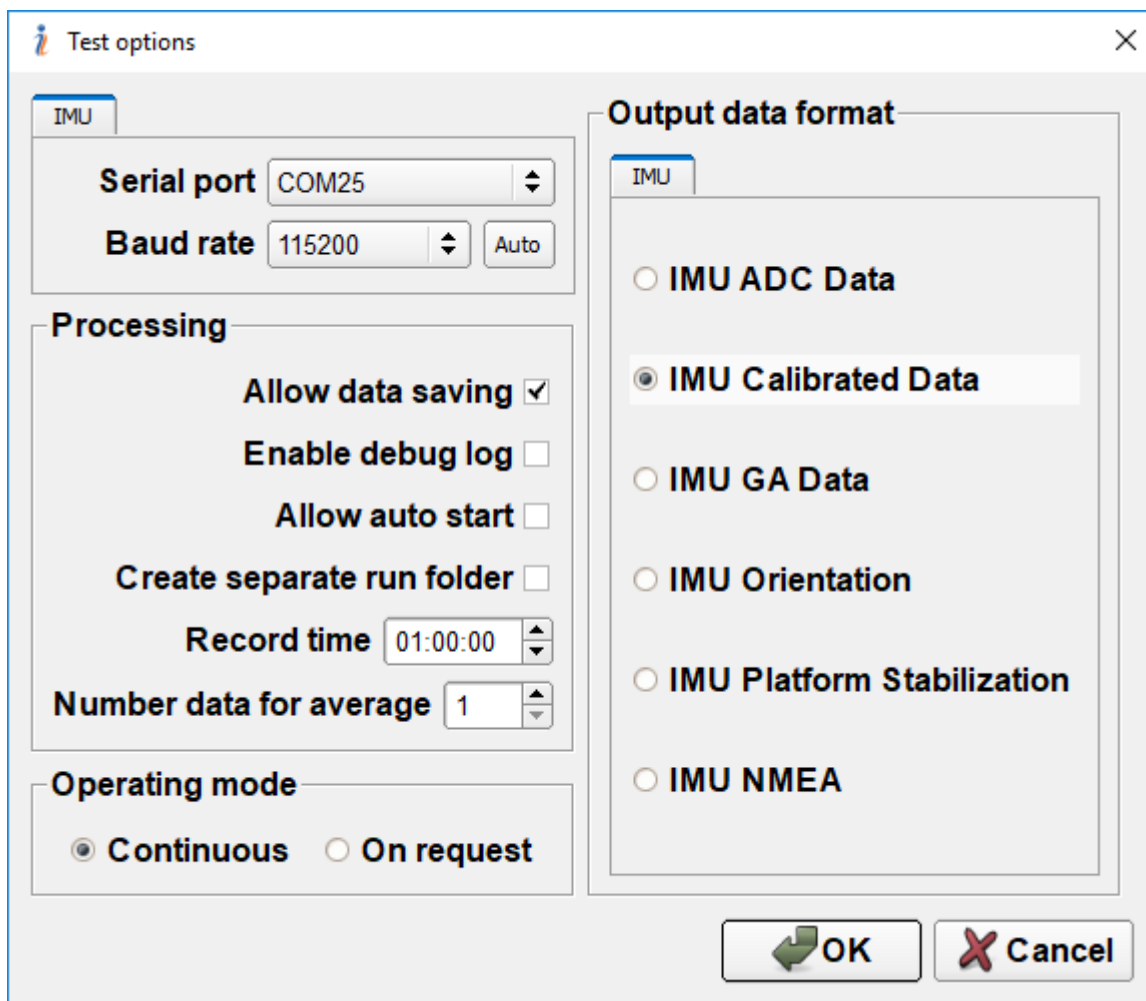

Fig.4.1
A “**Test options**” dialog box (Fig.4.1) will be opened.
**Note:** the maximum measurement rate is limited by the chosen baud rate of the COM port which the IMU unit is connected to and the chosen output data format (see Fig.4.1). See section “4.2.2. Limitation of the IMU maximum measurement rate” for full details and Table 4.1 for maximum measurement rate guidelines.